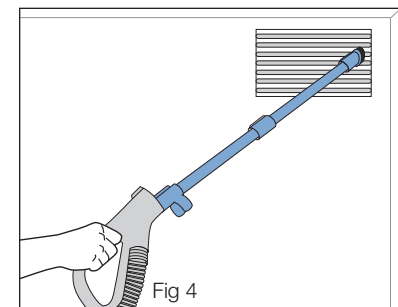

Fig 4
- Push down Quick Release handle until it locks into position. Secure hose into hose clip (Fig. 4).
Use for baseboards, furniture, vents and blinds (Fig. 4).